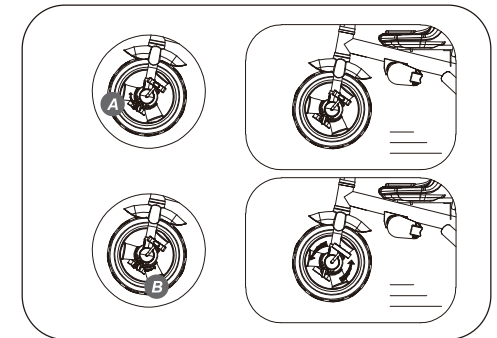

Fig. 18
23. For children 10 to 24 months, unlock the Front Wheel Lock so the pedals free spool. On the left side of the Front Wheel is the Front Wheel Lock, rotate clockwise **A** the wheel is unlocked and the pedals will free spool (See Fig. 18).
24. For Children 24 months up lock the Front Wheel Lock so the child can pedal the tricycle. On the left side of the Front Wheel is the Front Wheel Lock, rotate counter clockwise **B** the wheel is locked and the pedals will drive the 4-in-1 Push and Ride Stroller Tricycle (See Fig. 18).